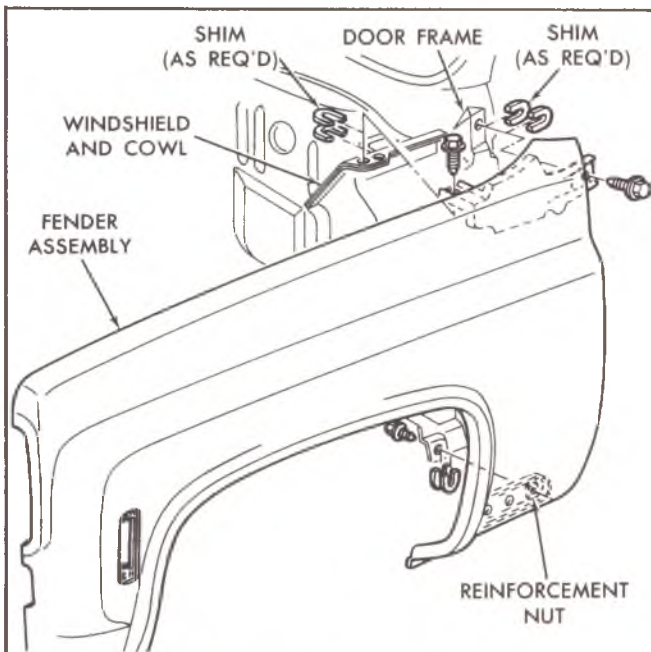

Fig. 10—Front Fender Assembly—CK Series
3. Install combination bolt and flat washer assembly into each fender reinforcement while inserting shims required between fender reinforcement and body (See Figure 10).